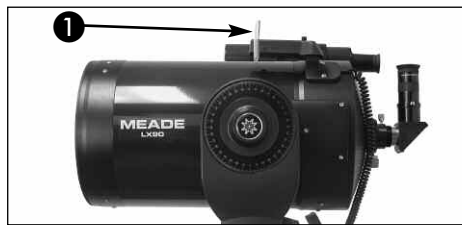

Fig. 6: SmartFinder Location.
2. While looking through the SmartFinder (**1, Fig. 6**), turn the top or side alignment screws (**2 and 3, Fig. 7**), until the red dot of the SmartFinder points at precisely the same position as the view through the eyepiece of the main telescope.